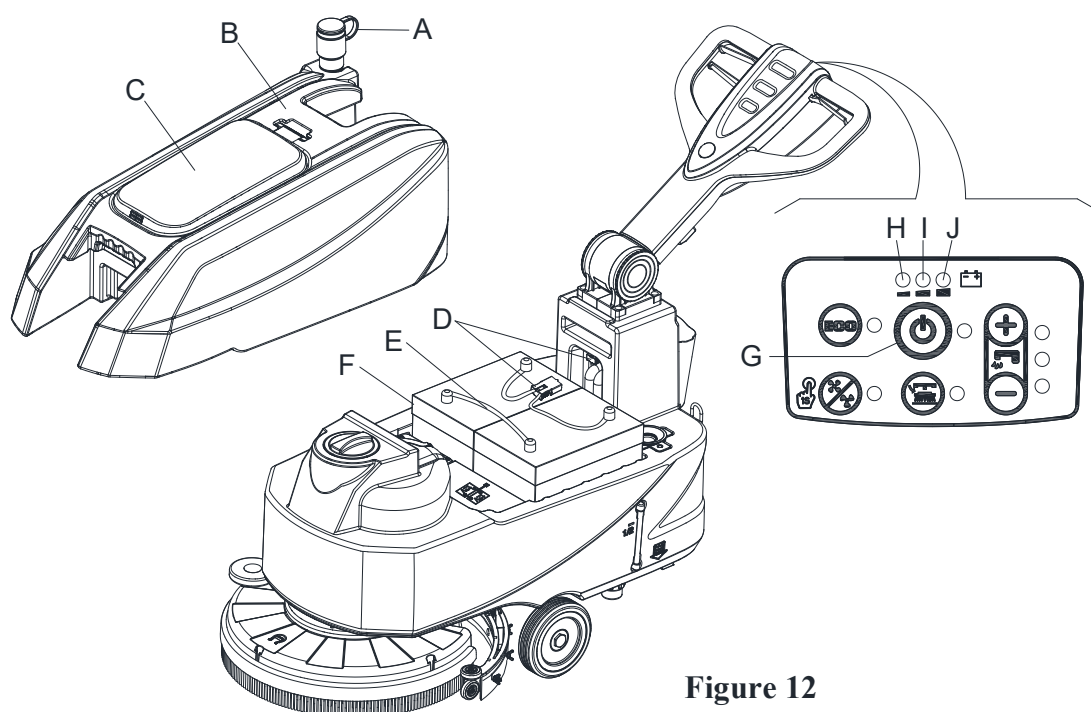

Figure 12
1. Open the cover (C, Figure 12) and check that the recovery water tank (B) is empty, otherwise empty it with the drain hose (A).
2. Carefully move the recovery tank kit (B, Figure 12).
3. Connect the battery connector (D, Figure 12).
4. Carefully put it back the recovery tank kit (B, Figure 12).
6. Press the start switch (G, Figure 12).
- Check the level of electrolyte inside the batteries (F); if necessary, top up through the caps.
- If necessary, clean the upper surface of the batteries (F).
Charge the batteries when the yellow (I, Figure 12) or red warning light (H) turns on, or when finishing cleaning.